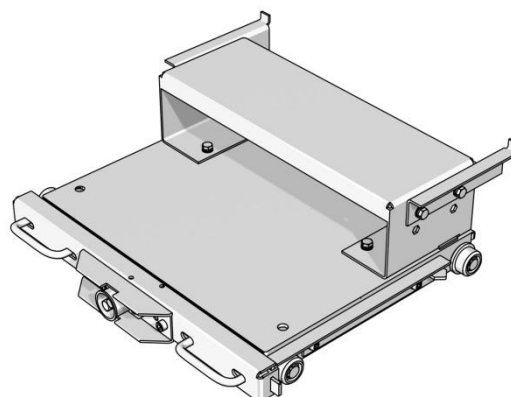

Fig. 4-16 Shutter lifter truck for busbar side shutter
- For busbar side shutters: Place push plate as indicated in the picture Fig. 4-16